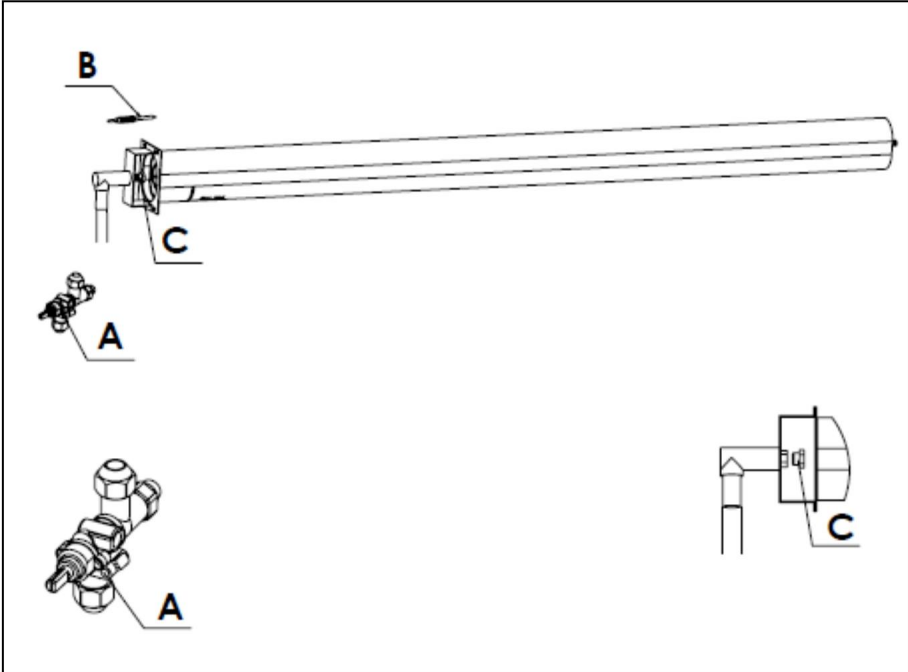

Figure 1
2. In case of unintentional flame extinguishment, when the "B" thermo element cannot see the burning flame Gas cock with safety valve "A" will cut off the gas flow. (Figure 1)